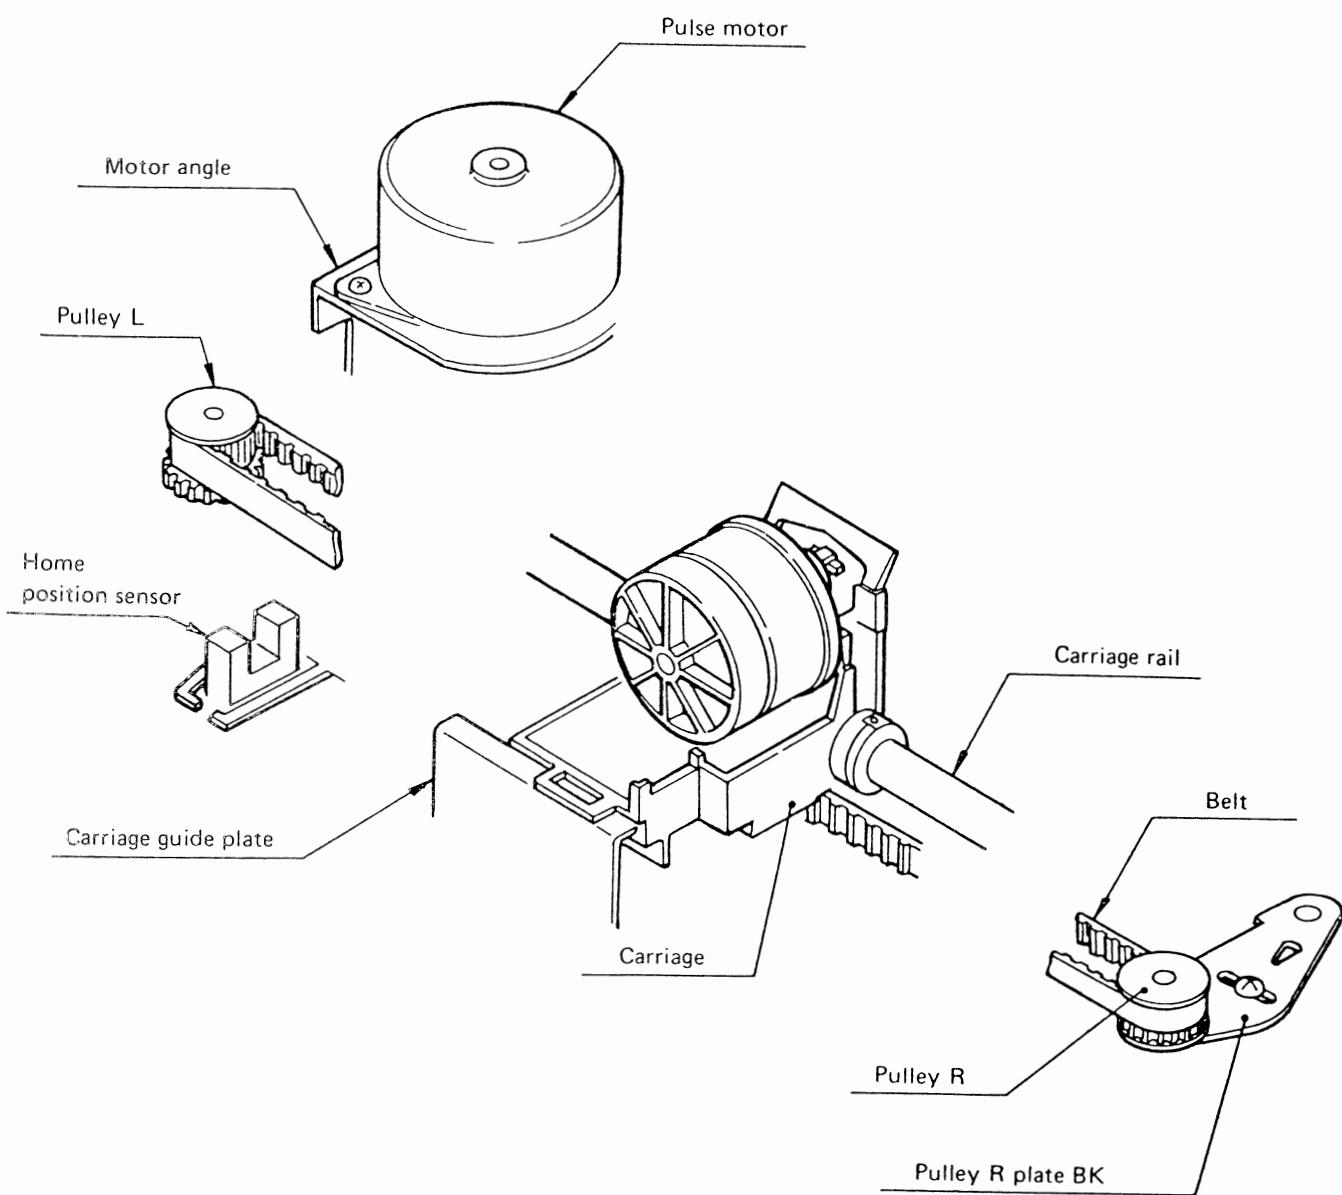

Fig. 2
#### **(1) Mechanism and operation (see Fig. 2)**
#### **(2) Carriage return operation (see Fig. 2)**